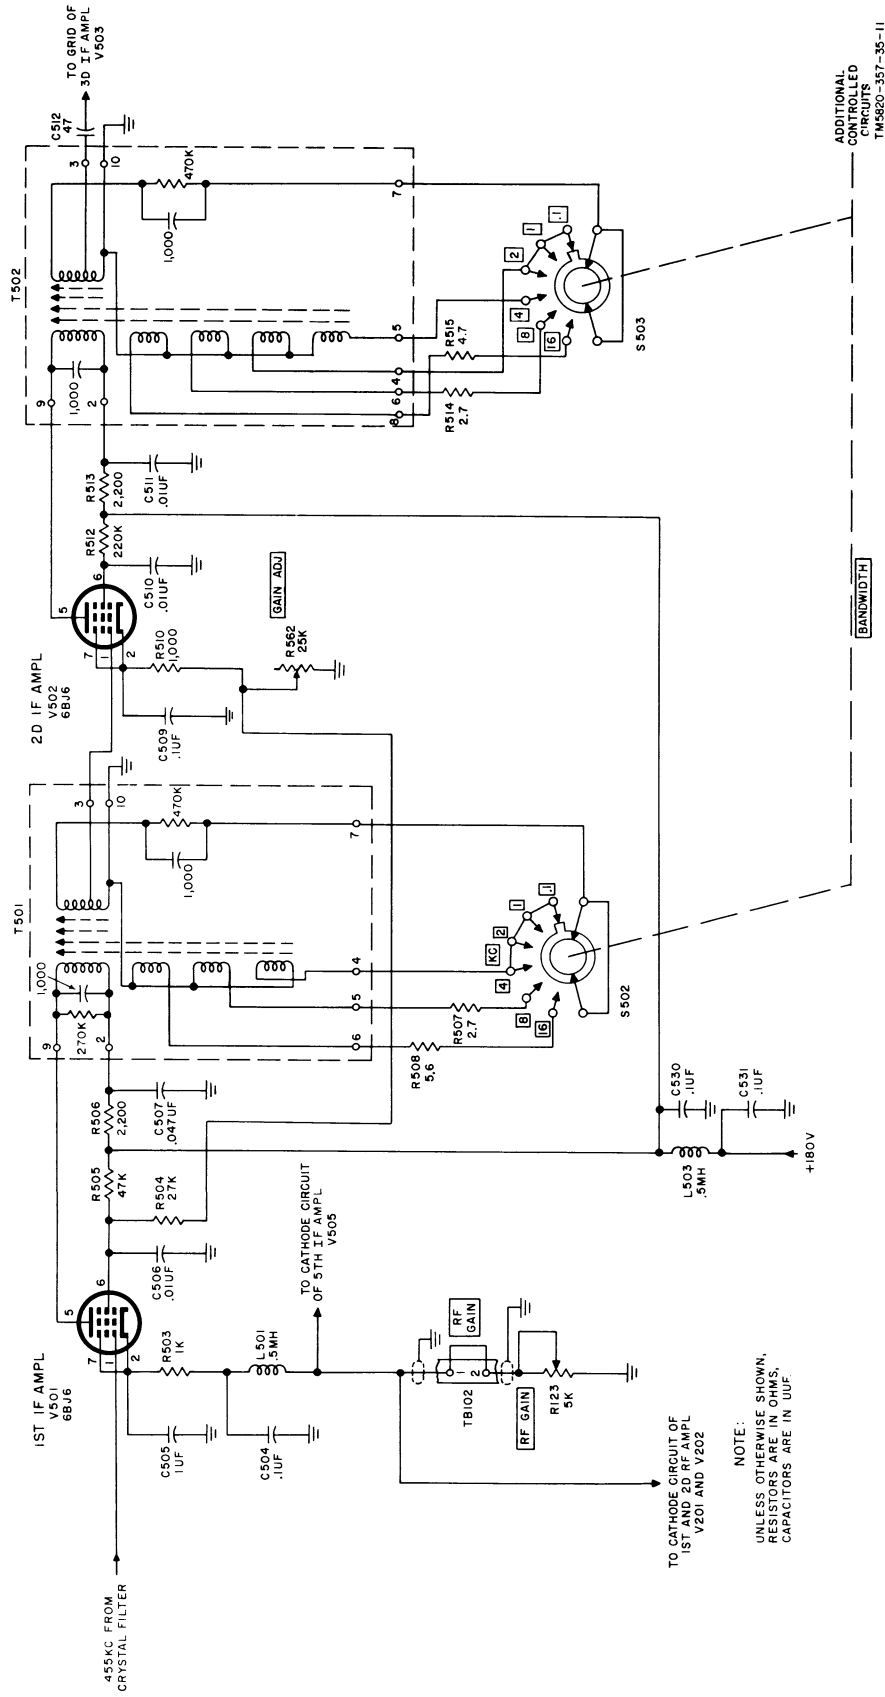

Figure 7. First and second *ij* amplifiers, simplified schematic diagram.
- (4) When the switch is in the 16 KC position, the coupling coils nearest the primary windings of all transformers are included in the coupling circuits. Resistor R508 is in series with the coupling coil of transformer T501; R515, R525, R530, and R535 are in series with the coupling coils of T502 through T505 respectively.
15. First If. Amplifier V501 (fig. 7)
16. Second If. Amplifier V502 (fig. 7)